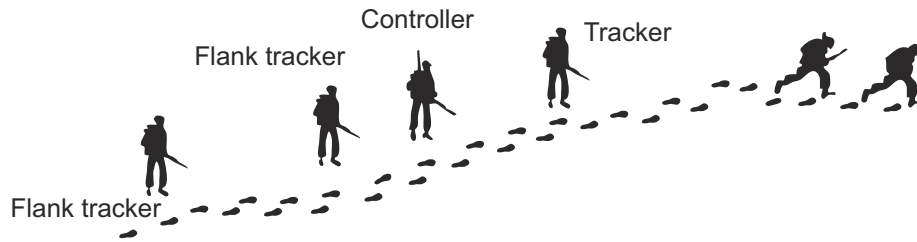

Figure 2-7. Single File Formation.
- *Single file formation.* This formation is used when the terrain or vegetation is such that both flank trackers cannot keep up with the pace of the tracker. Generally, it is used in thick brush conditions where visibility is restricted. See figure 2-7.